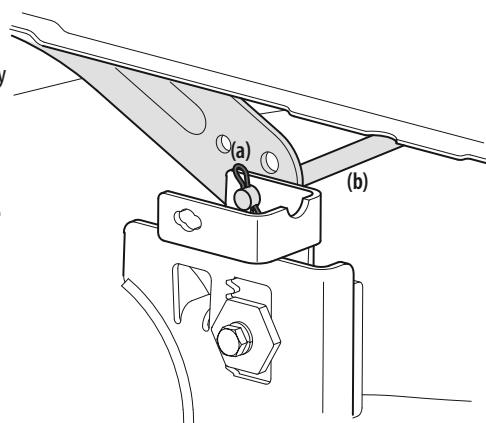

Figure 31
- Looking at the cutting deck from the left side of the tractor, locate the bow-tie pin (a) that secures the deck support rod (b) on the rear left side of the deck. See Figure 31. Remove the bow-tie pin (a) that secures the deck support rod (b), and carefully remove the deck support from the deck lift arm.